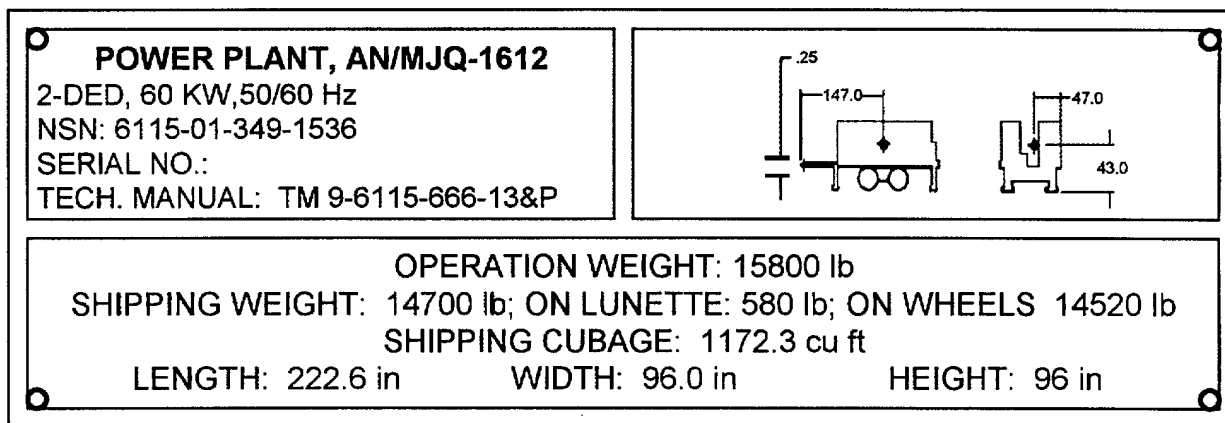
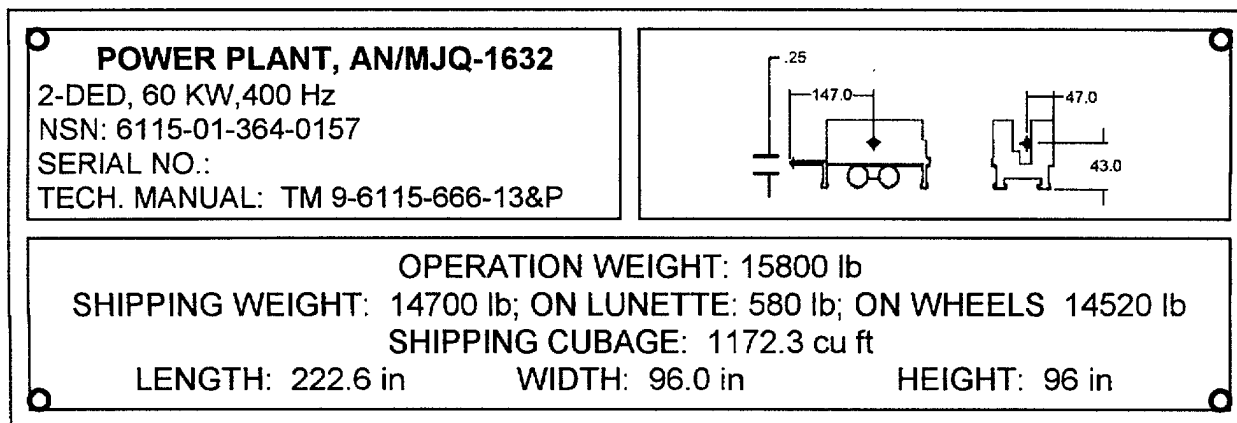

Figure 2-10. AN/MJQ-1612 Identification/Transportation Data Plate.
Figure 2-11. AN/MJQ-1632 Identification/Transportation Data Plate.
2.6.1. AN/MJO-1612 and AN/MJO-1632 Identification/Transportation Data Plate. Refer to figure 2-10 and figure 2-11. This plate is located on the trailer body.